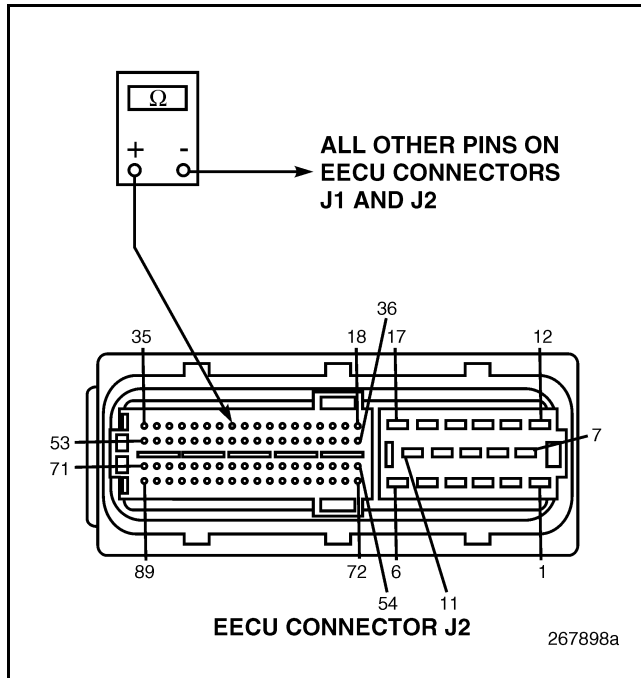

Figure 36
4. Check for continuity between EECU harness connector J2 pin 28 (ground line) and all other pins in EECU harness connectors J1 and J2 (see Figure 36).